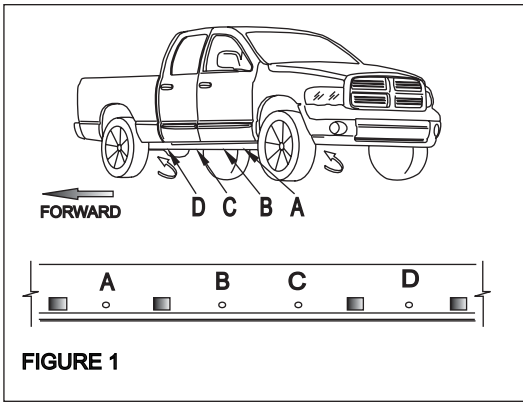

FIGURE 1
STEP 2. Remove tape from locations as shown. Install bolt plates as shown. **SEE FIGURES 1 AND 2.**